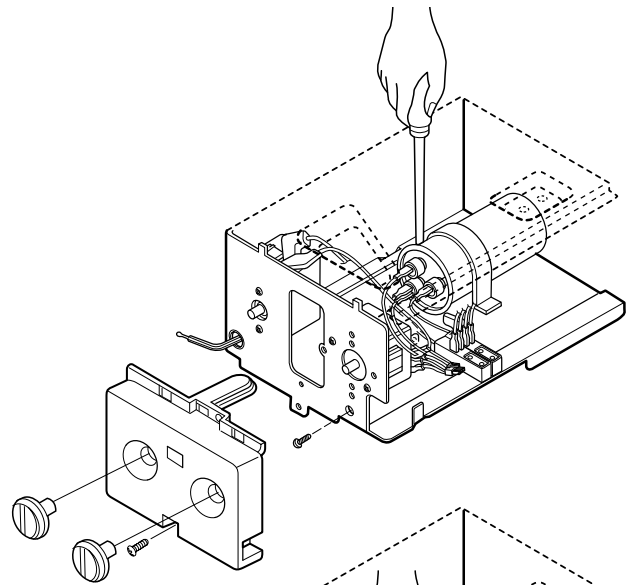

Figure 11
7. Re-install the components by referring to the removal procedure, above. (See Figure 11)